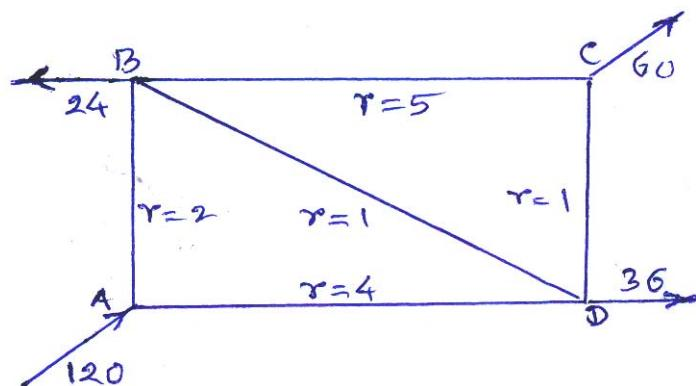

Fig. Q. 5 (b)
- b) For the pipe network shown in fig. Q.5 (b), determine the flow in each of the pipes. Assume the value of $n = 2$ in the formula $hf = rQ^n$. [12]